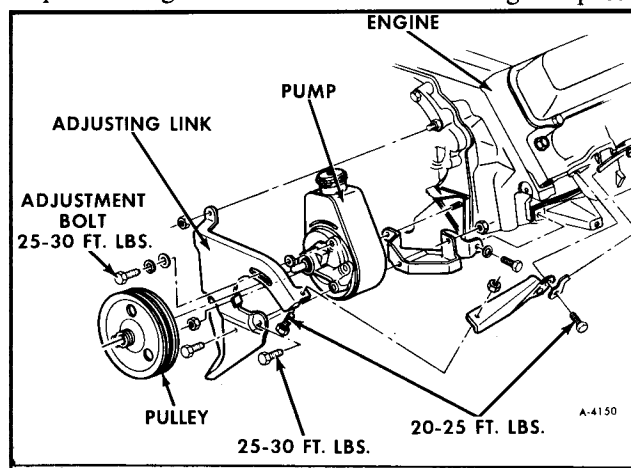

Figure 11—Power Steering Pump Mounting
c. Tighten all pump mounting bolts to specified torque (figure 11).
b. Adjust belt tension, tighten bolts to specified torque (figure 11).